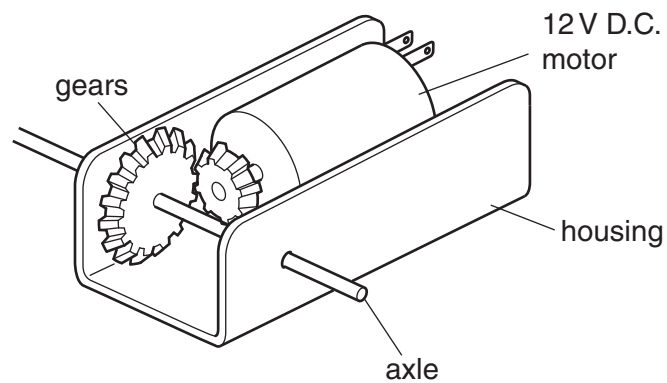

Fig. 2
- (b) Fig. 2 shows details of the drive unit for the train engine.